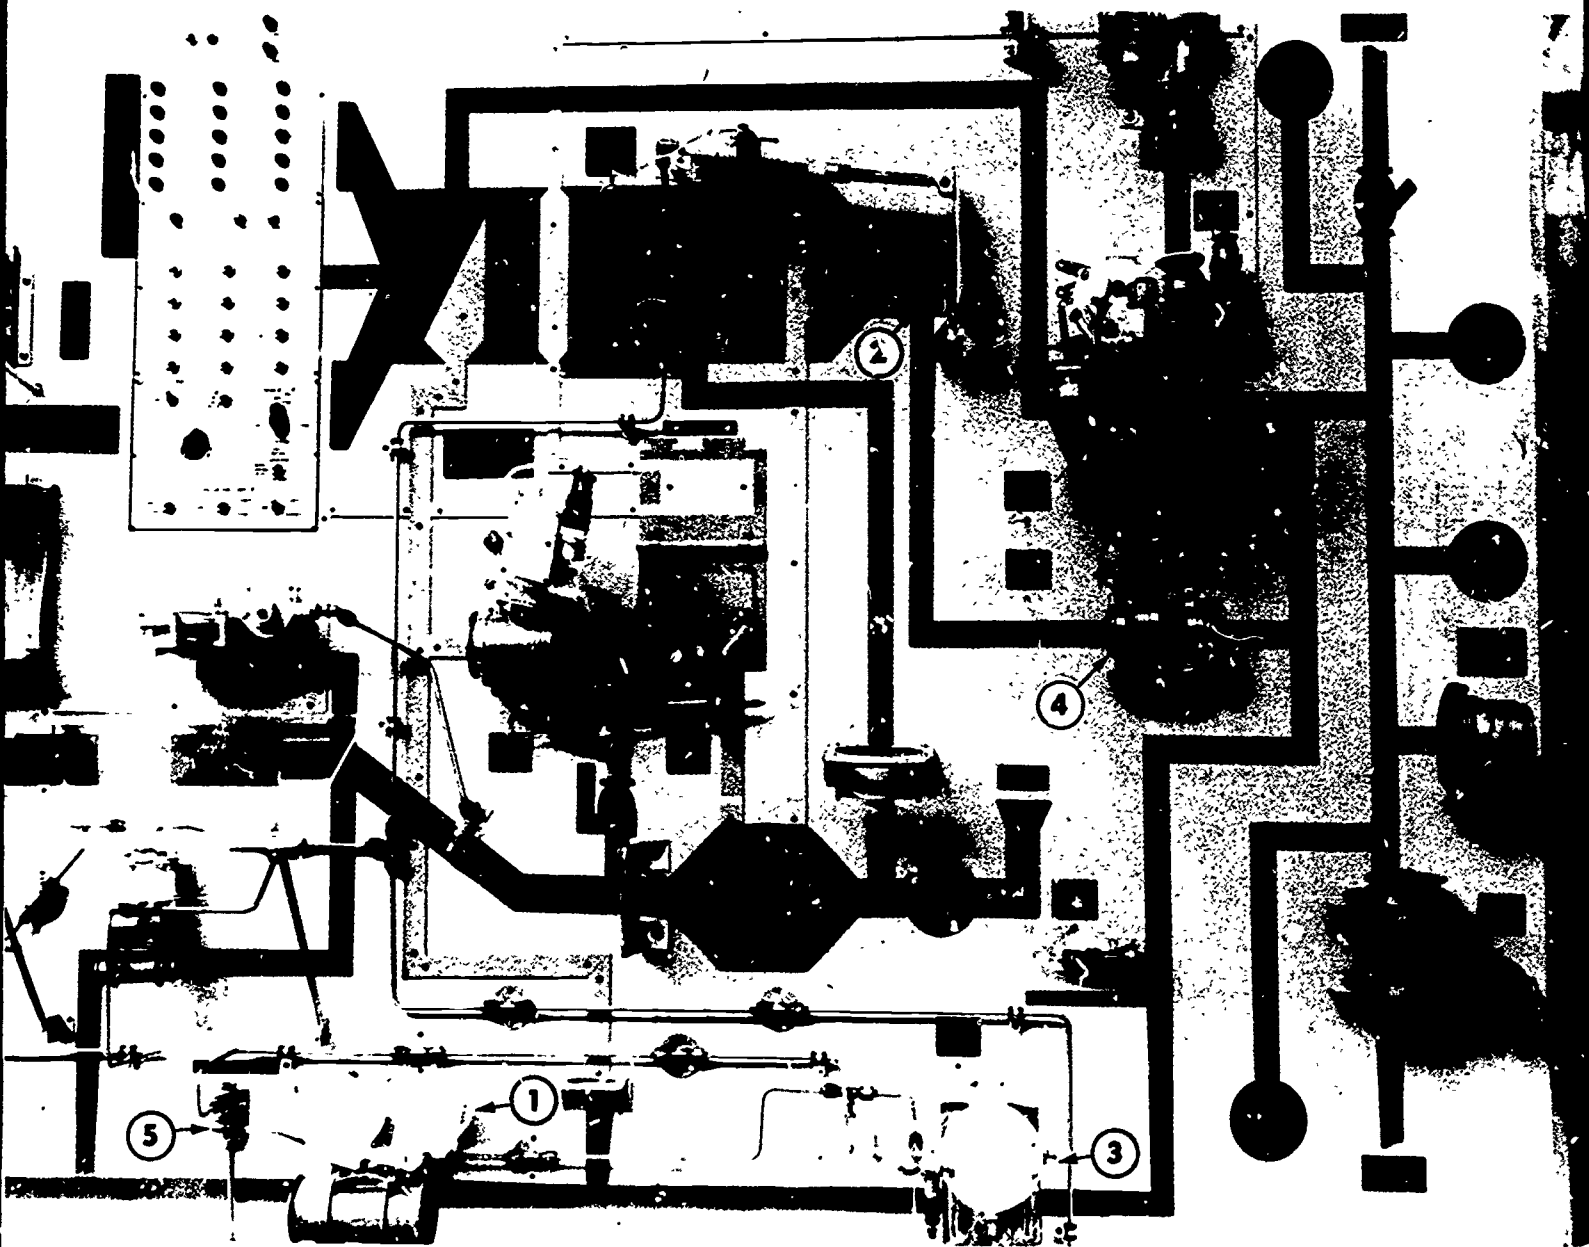

Figure 3.
3. Using the trainer and figure 3, find each of the lettered parts. Write the number that goes with the name in the blank space.
Answers, Figure 3.